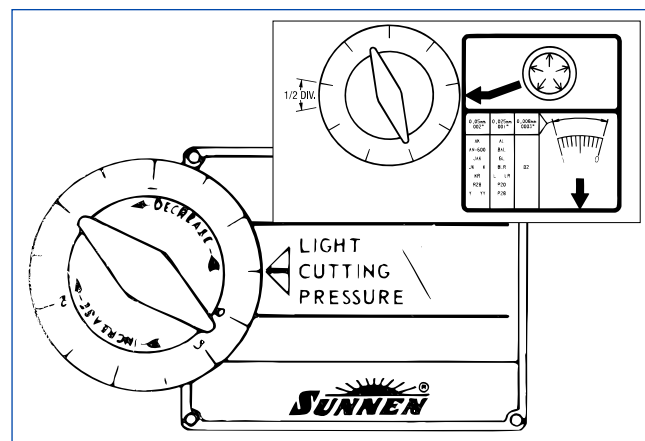

FIGURE 2-15, Light Cutting Pressure
34. Set Light Cutting Pressure Control according to Table 2-4 or Your Sunnen SMOPS Guide (see Figure 2-15).